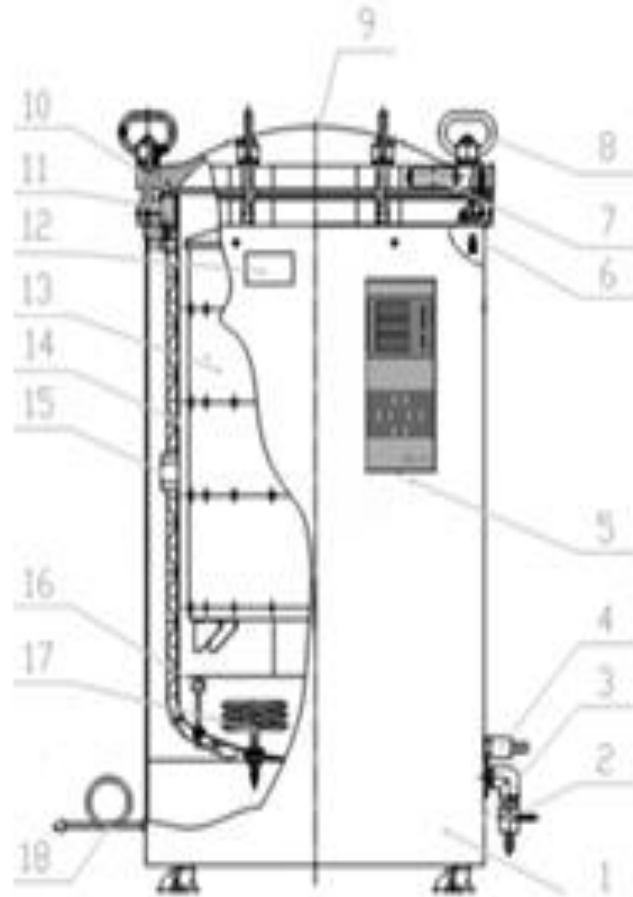

Figure 1
- Overload protection power switch at the lower side of the sterilizer, which is used during the equipment is under standby status (Refer Fig 1).
- Drain knob at the lower part of the sterilizer, which is used for the discharge of water from the container (Refer Figure 1).